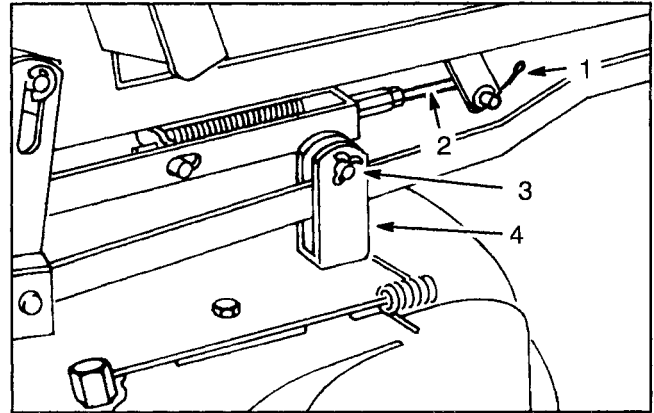

Figure 23
3. Remove the cotter pin from the adjustment rod and pull it from the pivot tube arm (Fig. 23).
2. Remove the cotter pin from the adjustment rod (Fig. 23).